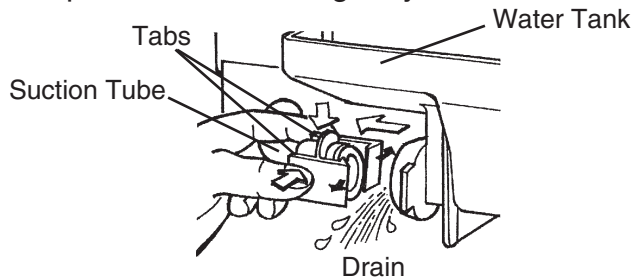

Fig. 26
- 3) Inside the storage bin, disconnect the suction tube by squeezing the tabs and pulling the tube clear. See Fig. 26. Allow the water tank to drain.